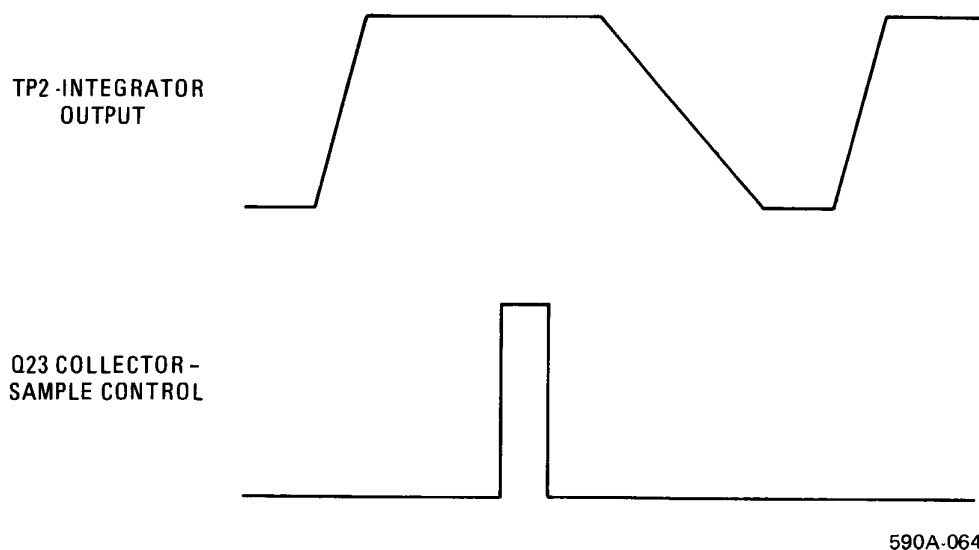

Figure 9. Integrator Output and Sample Control Waveform Relative Position
- a. Use the dual channel oscilloscope to check the signal at TP2 of the synthesizer assembly and the SAMPLE CONTROL signal at the Q23 collector. The signals will resemble the waveforms shown in figure 9 when the synthesizer is operating properly.